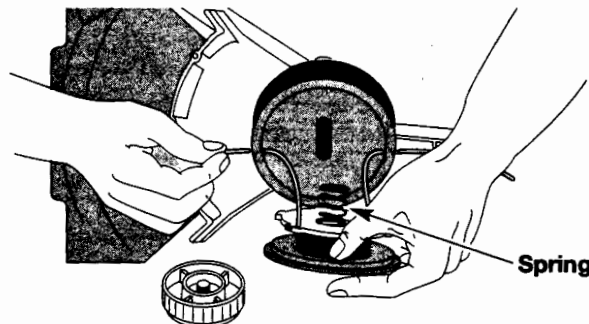

Fig. 35
- Insert the ends of the line through the eyelets in the outer spool and place inner reel with spring inside the outer spool (Fig. 35). Push the inner reel and outer spool together. While holding the inner reel and outer spool, grasp the ends and pull firmly to release the line from the holding slots in the reel.
5. Insert the ends of the line through the eyelets in the outer spool (Fig. 35).